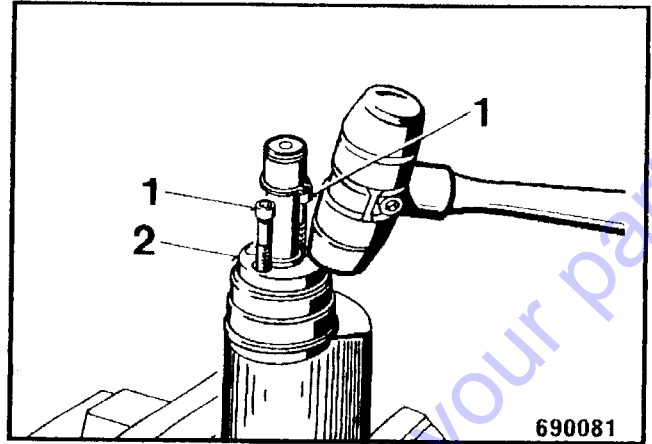

Fig. 2
- Attach the control sleeve 2 (Fig. 2) to the exciter shaft.
- Screw two guide screws (1) into the exciter shaft through the mounting bores in the control sleeve.